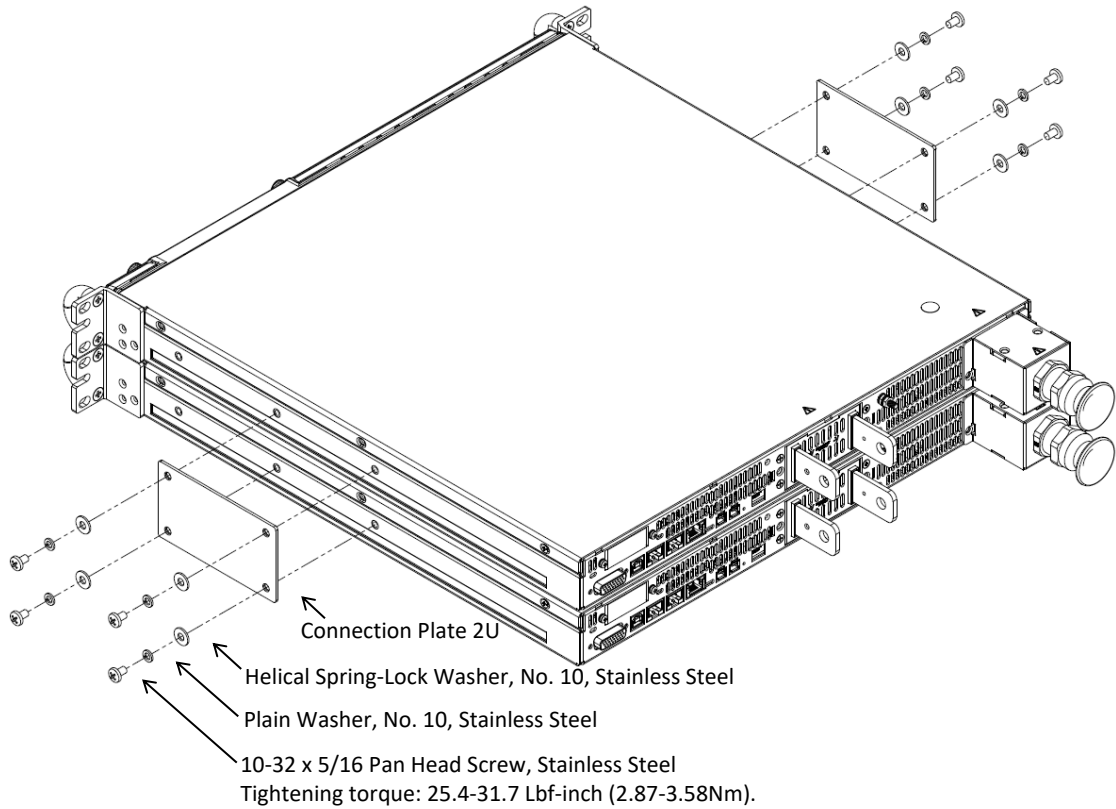

Figure 16: Two 60V-100V Units Connection Plates 2U Assembly
1. Attach connection plates, one on each side of the power supplies, using eight pan head screws, eight helical spring-lock washers and eight plain washers as illustrated in Figure 16.